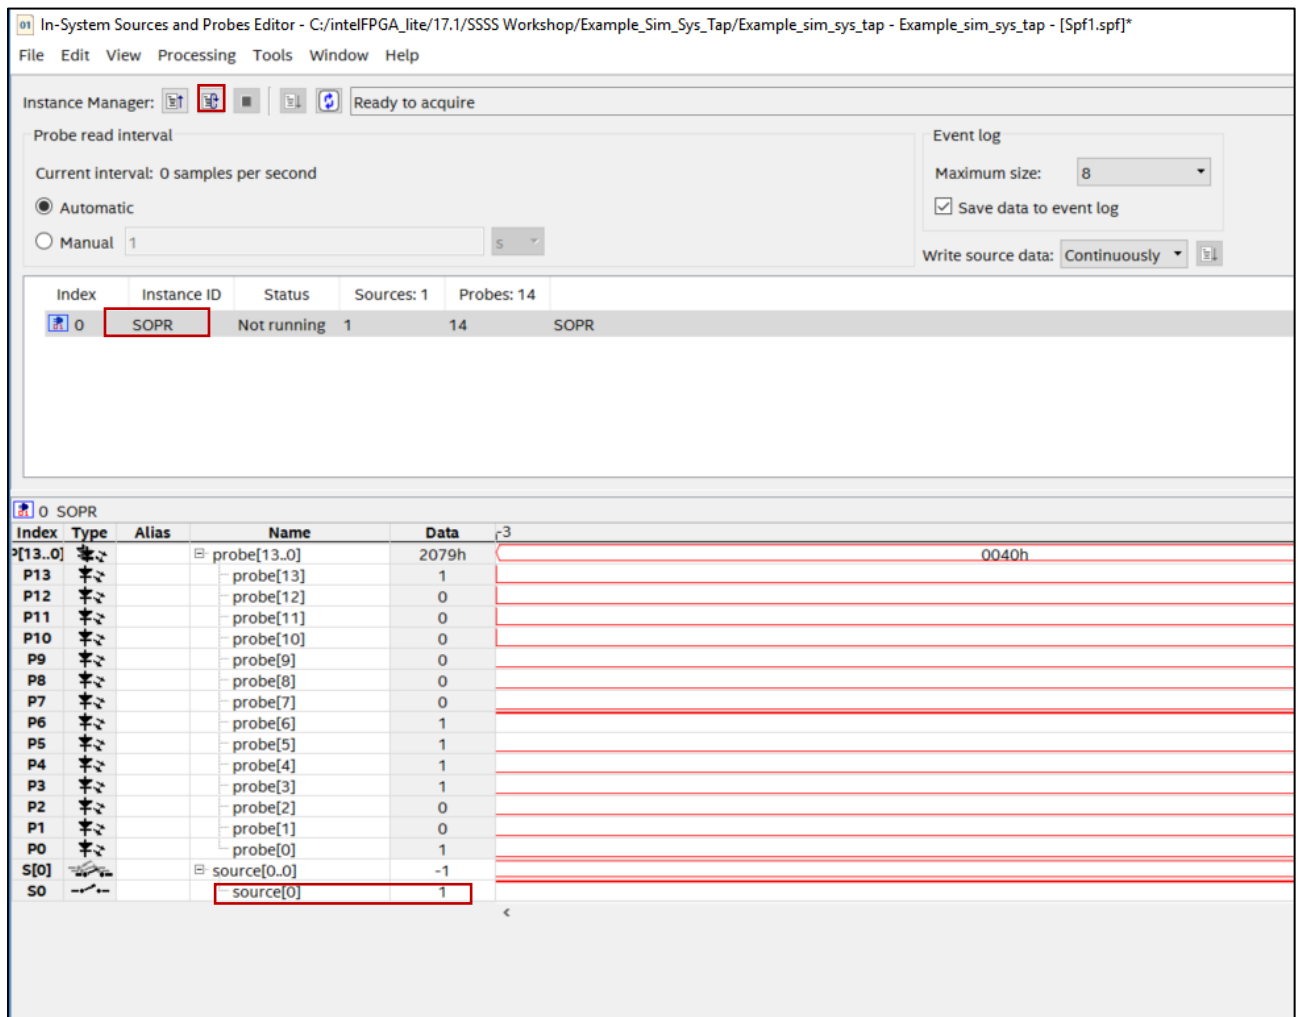

FIGURE 37 ISSP EDITOR AND WAVEFORMS
7. Select **SOPR** instance in the **Instance Manager**. Refer to Figure 37 below.